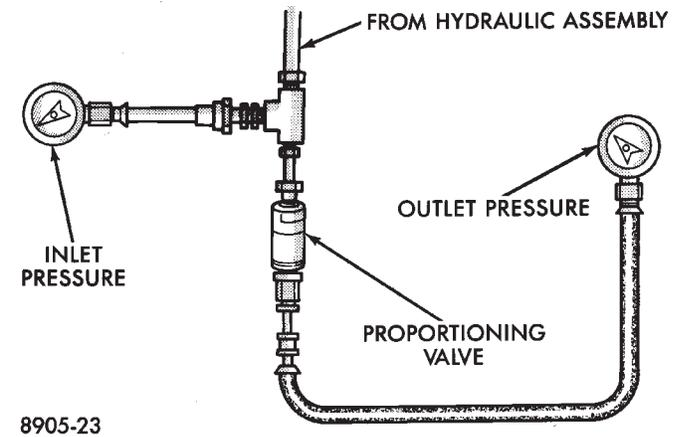

Fig. 6 Tube Connections for ABS
(1) Install one gauge and (TEE) between the hydraulic assembly and the male end (Inlet) of the valve.
(2) Install the second gauge at the female end (Outlet) of the valve (Fig. 6).